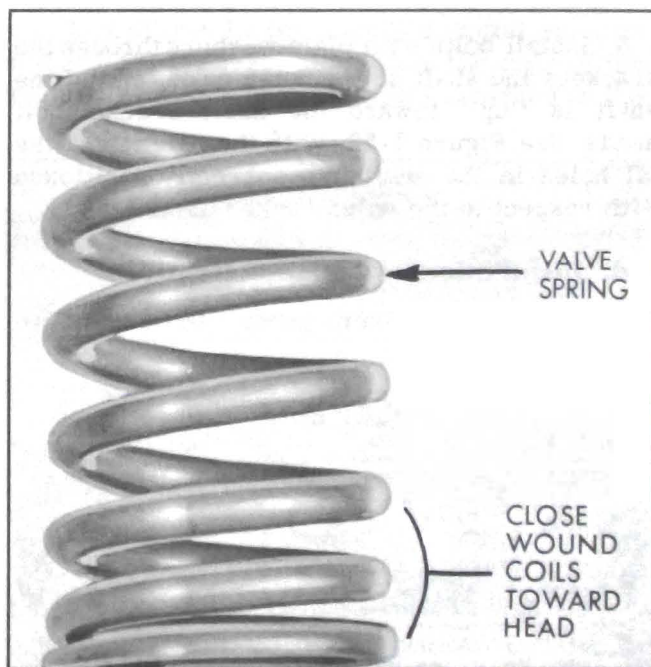

Figure 2-20—Valve Spring
12. Lube with engine oil and reinstall valves, valve springs, caps and cap retainers, using same equipment used for removal. Install valve spring with closely wound coils toward the cylinder head. See Figure 2-20.